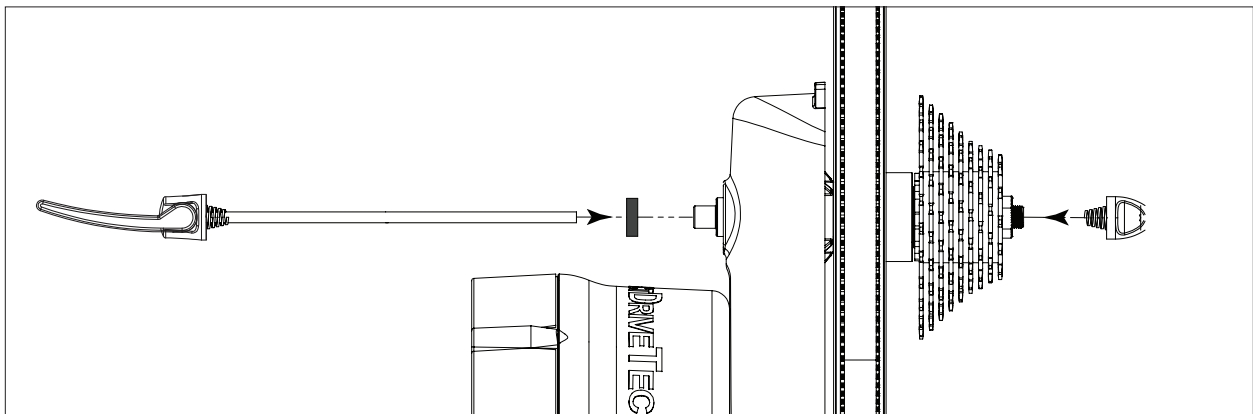

FIGURE 1.3
4. Insert the skewer into the body assembly from the fan side and thread the acorn nut onto the skewer on the cassette side. (Figure 1.3) Do not fully thread the acorn nut in place to allow for bike mounting.
Note: Ensure the spacer is installed on the fan side of the unit and that both springs are present on the skewer as shown in Figure 1.3.